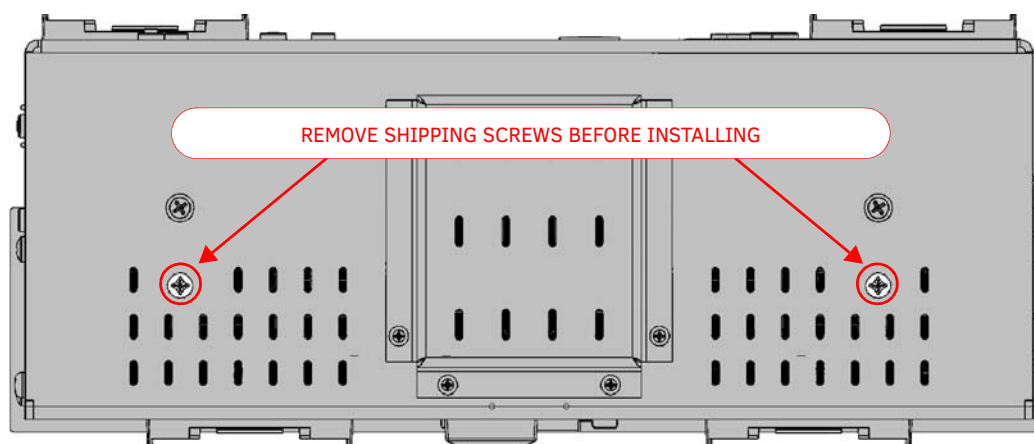

FIG. 7 MXR-1001 BOTTOM View - remove shipping screws before installation
1. Carefully remove the MXR-1001 from the shipping box and remove packing materials. Note that the MXR-1001 ships with two Shipping Screws installed on the bottom surface of the Motor (FIG. 7):